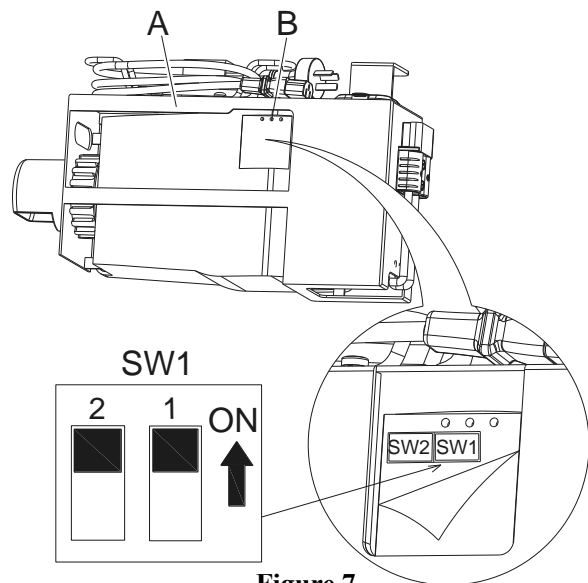

Figure 7
1. Turn off the machine and disassemble the On-board charger (A, Figure.7) from the machine. Then pry open the label on the charger cover (B, Figure.7) you will find the 2 sets of dipswitches (SW1 and SW2) in the charger.